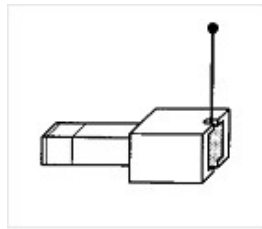

Fig. 8
4. Place the GeneCAPSULE™ on a dry surface or hold it between your fingers carefully. Position a pin (provided) in the DNA-collection port and puncture a small hole in the membrane of the Collection Port (see Figure 8, 10). **Warning:** Do not force the pin downward into the membrane; this will damage the membrane and spill the DNA.